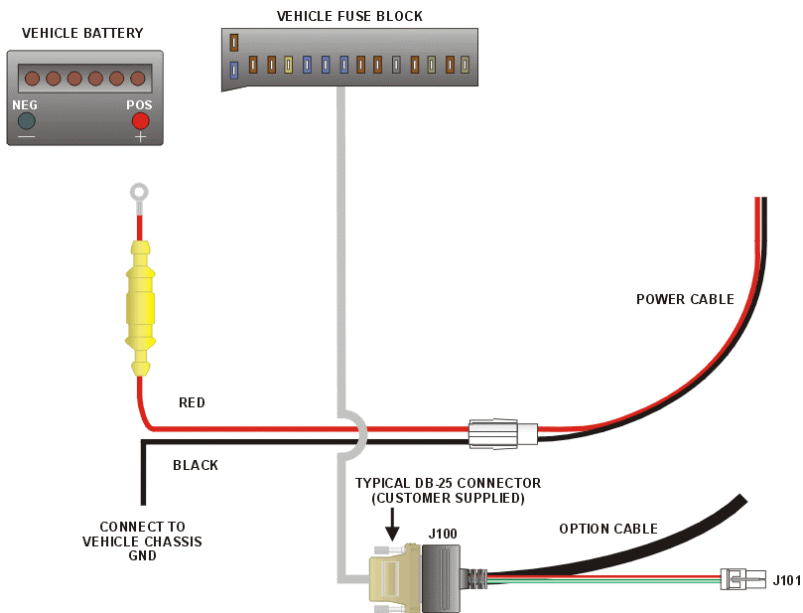

Figure 6 – Power Cable RPM 113 7674/10
The power cable RPM 113 7674/10 consists of a two-wire cable, see Figure 6. The red fused lead supplies power to the radio directly from the vehicle battery. Ignition Sense lead, through the separate option cable, is used by the radio electronics to determine when the ignition switch is turned on. The black lead is the radio ground connection.
4. Connect the BLACK lead to the vehicle chassis. Connect the lead as close to the radio as possible. DO NOT connect the BLACK lead to the “NEG” or “-“ battery post. Connect the RED lead to the positive (“POS” or “+”) battery post. See Figure 6.
Connect Pin 13 of the option cable to an ignition “ON” sense point (preferably an “Accessory” point in the vehicle fuse panel) that is switched on when the vehicle ignition switch is in the ACCESSORY and RUN positions. This lead should be connected so the vehicle fuse protection is used. See Figure 6.